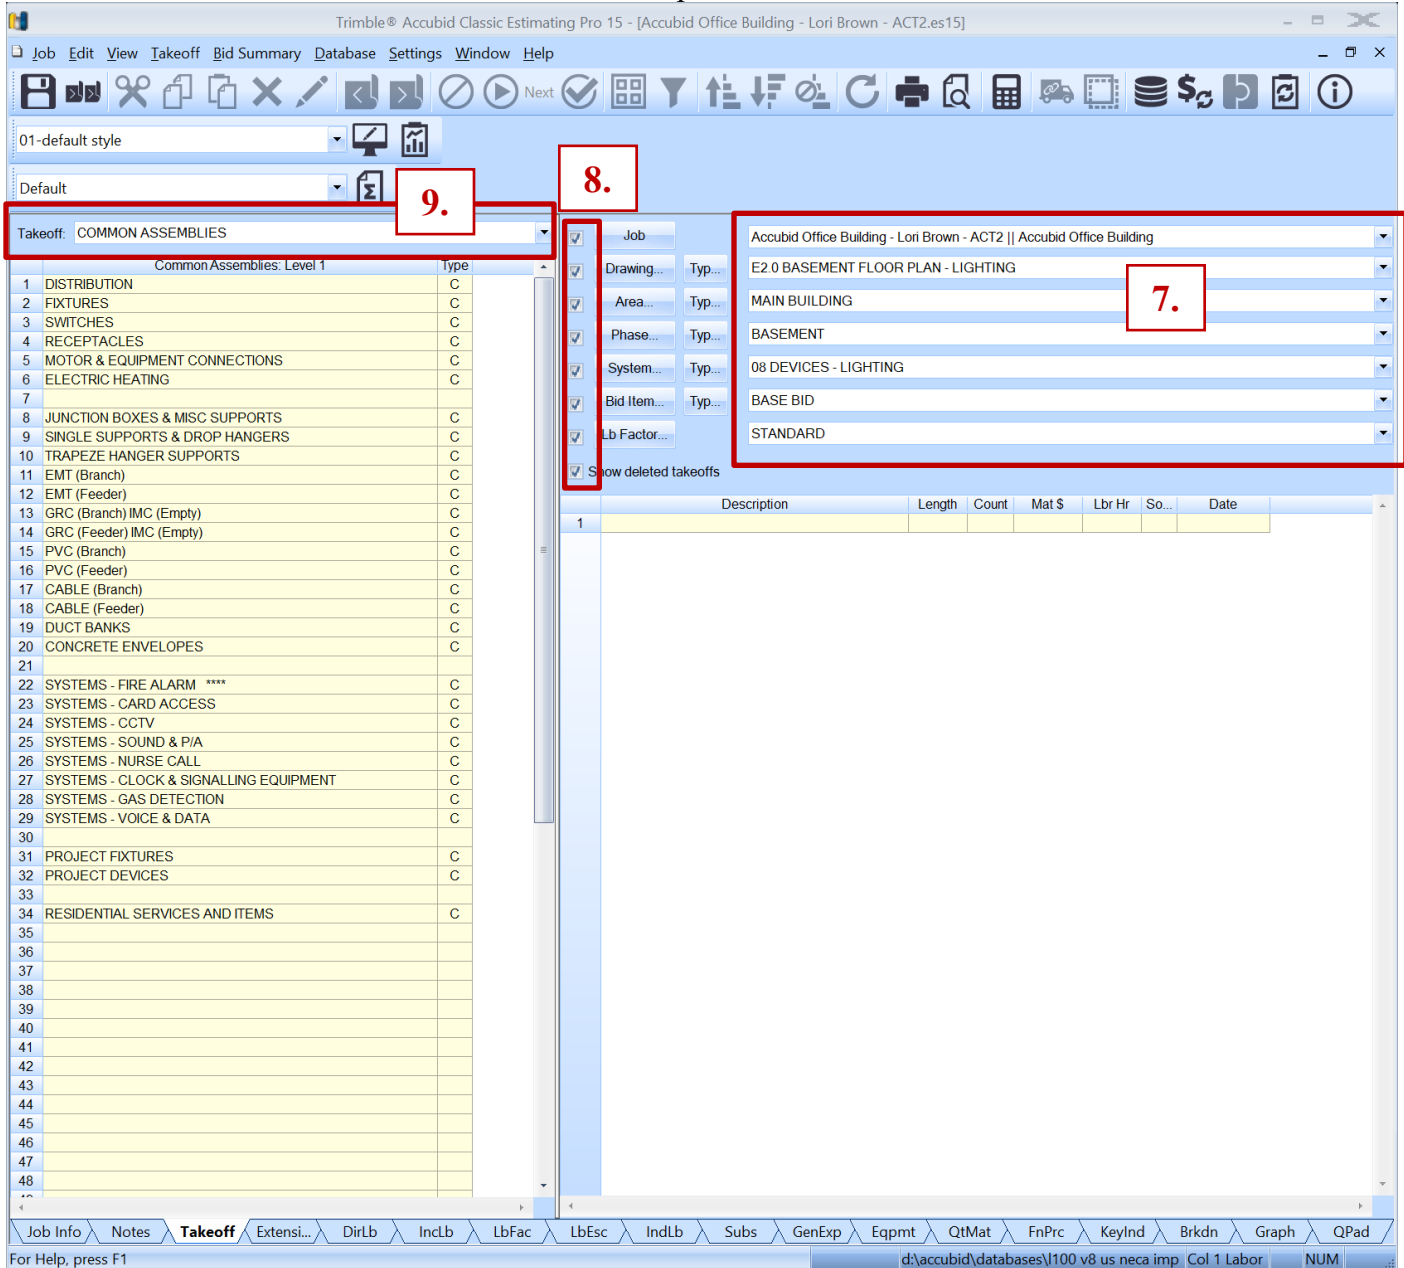

Figure 2
7. Set the Breakdown Labels as shown in Figure 2.